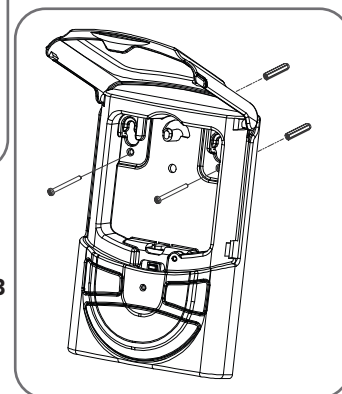

Fig.6.7.3
- Mount the Premium Wall Control using parts provided in a convenient location, yet out of reach of children and at least 5 feet off the ground. (**Fig 6.7.3**)